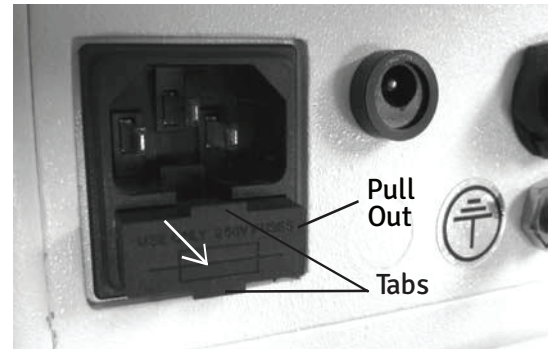

Figure-25 Pull Out
3. Open the Door to the Fuse Holder by pulling it down. Refer to figure-25.